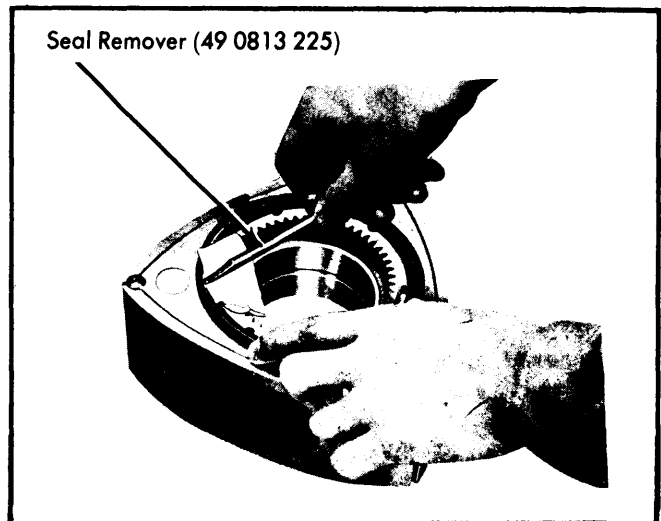

Fig. 6 Prying Oil Seal from Rotor
13) Mark each rotor as to front or rear. Remove oil seals from rear rotor using suitable prying tool (49 0813 225), Fig. 6, being careful not to damage oil seal lip.